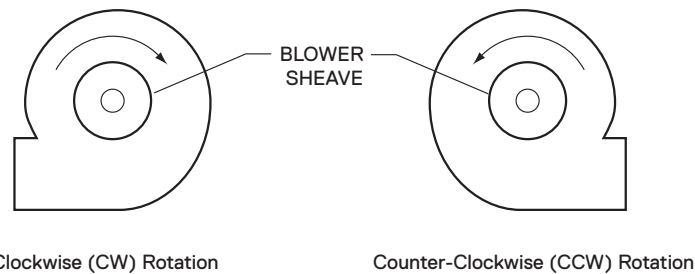

Figure 5
- 16 ☐ ☐ ☐ Apply power to the blower motor momentarily (bump start) to check for proper blower wheel rotation. If the blower is rotating in the wrong direction, reconnect the motor leads per the motor manufacturer's wiring schematic. **Blower rotation is determined by viewing the blower from the motor side of the blower, NOT from the inlet side.** After reconnecting the leads, repeat this step. See **Figure 5**.